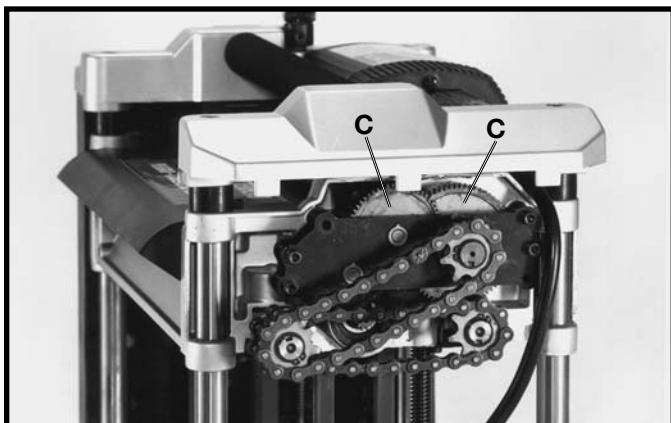

Fig. 39
2. Place extreme pressure lithium grease on the teeth of gears (C) Fig. 39, and replace the side cover.